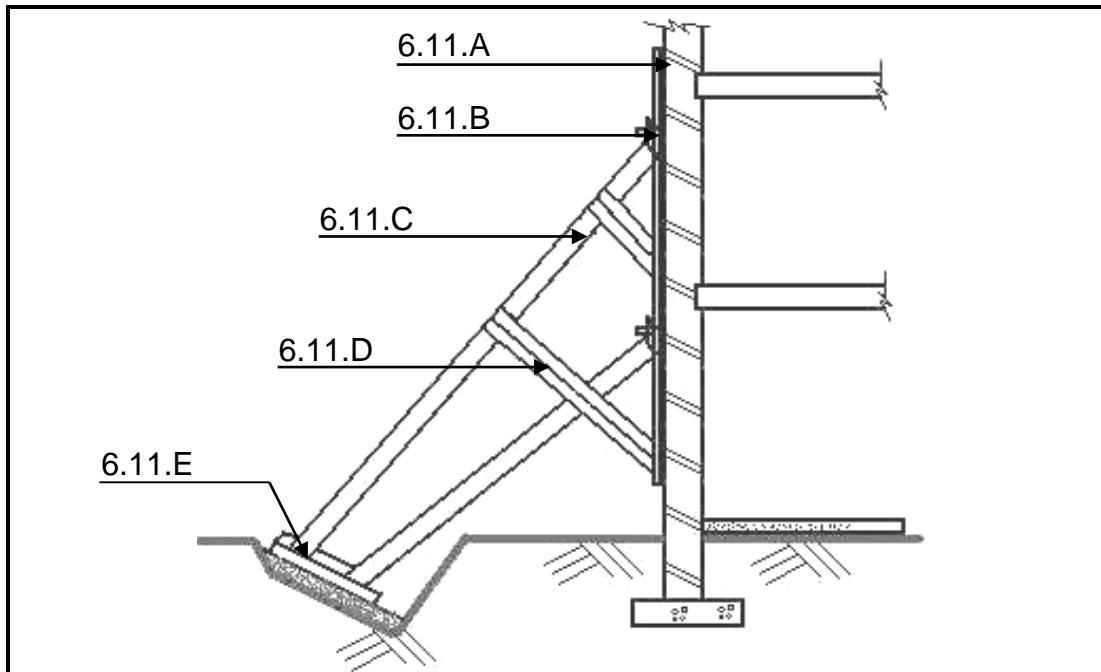

FIGURE 6.11
6.11 Answer the following questions with regard to the shoring in FIGURE 6.11.